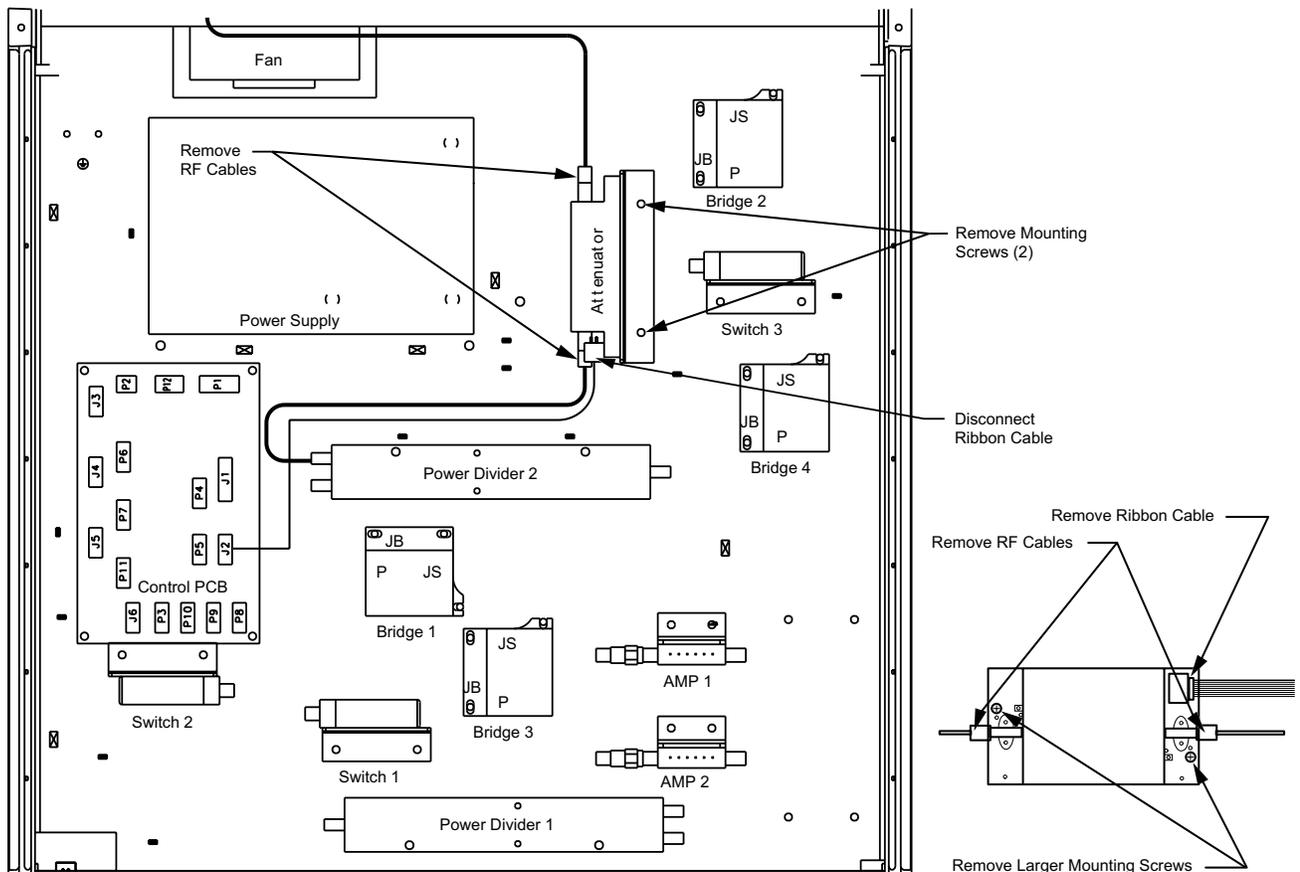

Figure 5-4. Step Attenuator Removal
- Step 2.** Disconnect the Step Attenuator ribbon-cable from the Attenuator (Figure 5-4).